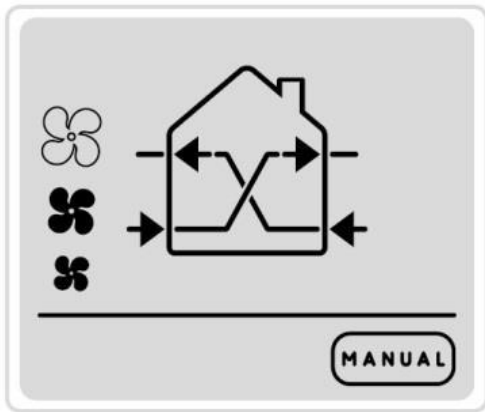

Figure 40
Figure 40 illustrates the Manual Mode icon as it appears on the remote control, assisting users in visually identifying the correct mode when navigating the display options.
In this mode, the **IMPELLER (V)** button becomes active, allowing you to select the desired speed. Figure 40 also helps clarify which visual display confirms that Manual Mode is successfully engaged.